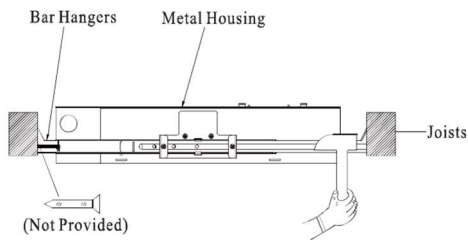

Fig. 2
2. Position metal housing and bar hangers between ceiling or wall joists. Make sure bar hangers are in the correct position to be mounted. Position metal housing temporarily by hammering nail-in tabs on bar hangers, then secure permanently with nails or screws. Bar hangers should be level with bottom of joists (Figure 2).